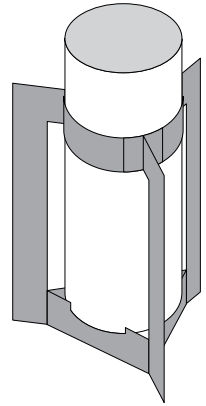

Figure 14
8. Slide the body tube into the notches (Figure 14). You are now ready to attach the fins.
3. Place the fin, glued edge toward the tube, against the right or left side of one of the handles and press it into the tube (Figure 14). Hold it against the tube for a moment then secure it with a clothespin.